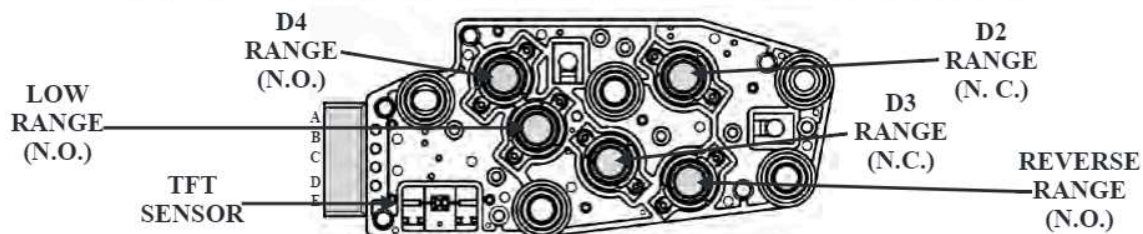

Figure 77
- The TFP Switch assembly in a 4L60E transmission (See Figure 77) ranges differently than the TFP Switch assembly in a 4L80E, (Refer to Figure 78). The 4L80E TFP Switch assembly contains 5 normally open pressure switches. The 4L60E TFP Switch assembly contains 3 normally open and 2 normally closed pressure switches and also contains the Transmission Fluid Temperature Sensor.